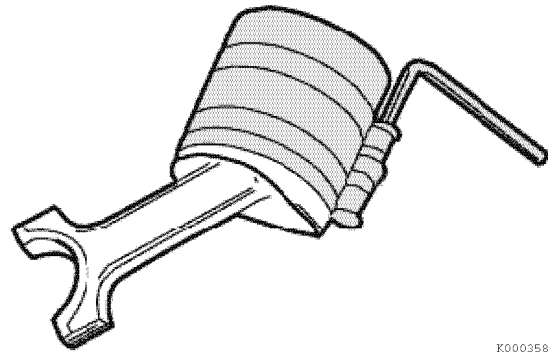

Figure 5-59
7. Position the piston rings so that the ring gaps are distributed evenly (approximately 120° apart) around the piston and **not** in line with the wrist pin. Install piston ring compressor (**Figure 5-59**).